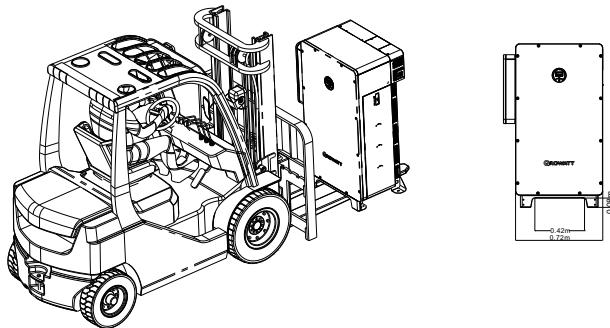

Fig 5.7 Moving the WIT Inverter with a forklift
- As shown in Fig 5.7, operate the forklift to insert the tines into the pallet openings to lift the inverter and then transport it to the installation position. (the fork width should be less than 0.42 m);